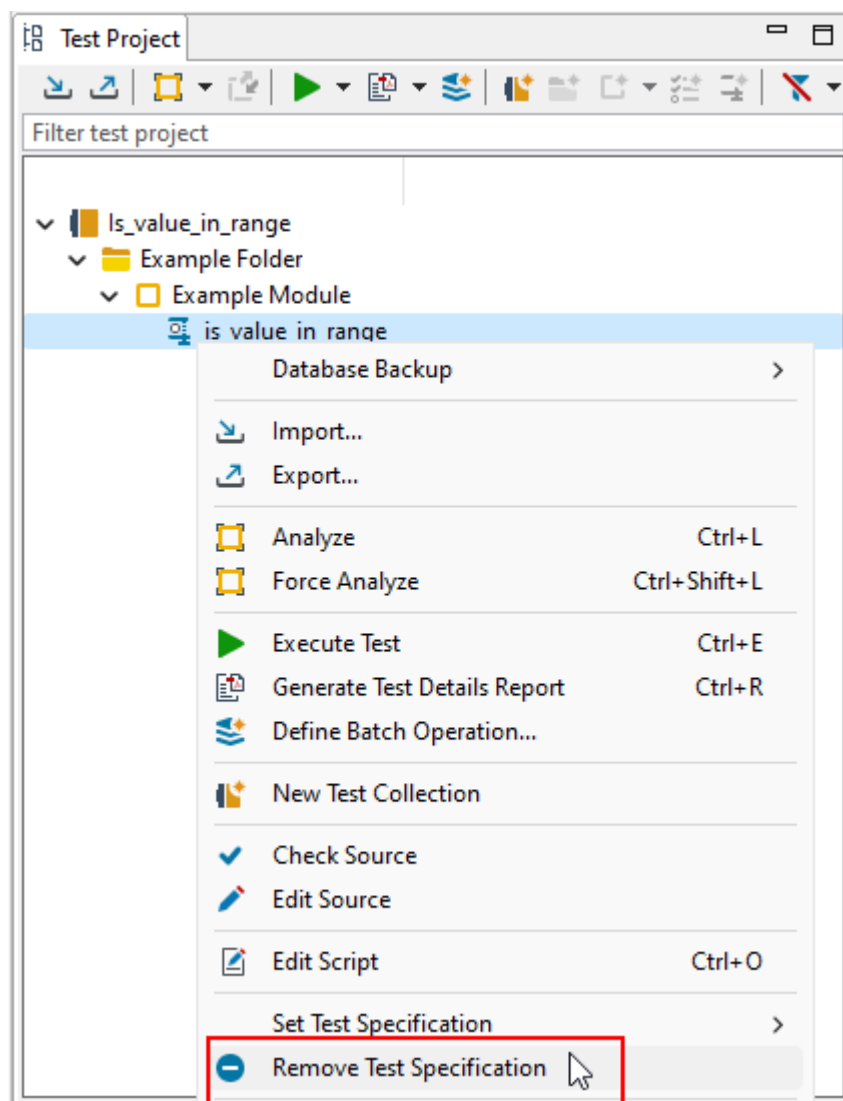

Figure 6.182: Remove Test Specification
- In the pull down menu click “Remove Test Specification” (see figure 6.182).